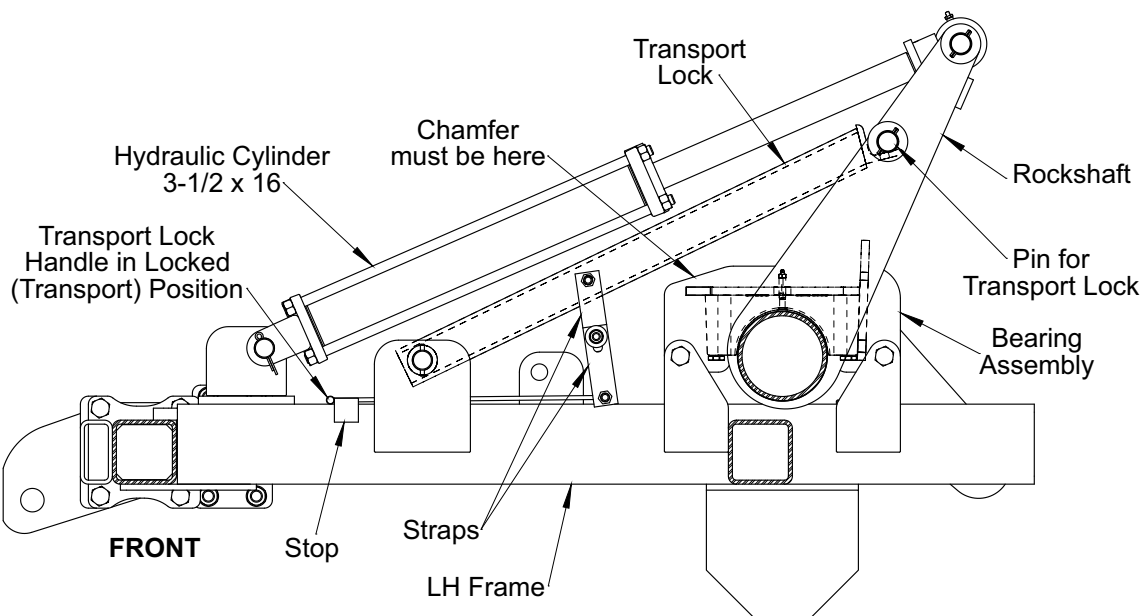

Figure 2-12: Transport Lock - Transport Position
5. The slotted ends of the Straps should overlap. Fasten each pair of Straps together with 1/2-13 x 1-1/2 Bolts, Flat Washers, Lockwashers and Hex Nuts. Adjust the Straps so that the Transport Lock Angle will catch the Rockshaft Lower Pin securely when the Hydraulic Cylinder is extended. Once this has been accomplished, tighten the 1/2-13 x 1-1/2 Bolts. **See Figure 2-12.**